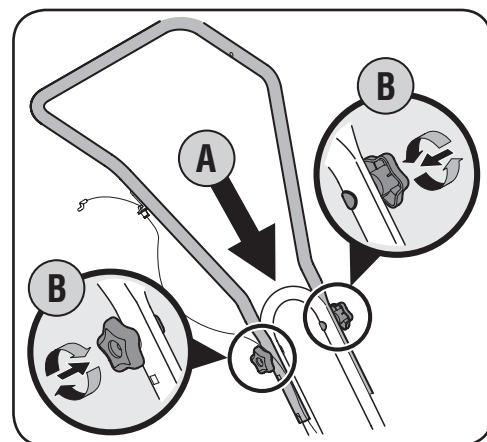

Figure 3-4
2. Position the upper handle onto the lower handle, Step A in Figure 3-4. Align the holes on the lower handle with the holes on the upper handle. Choose the upper or lower holes depending on the desired handle height.
3. Insert carriage screws through the holes and secure with the star knobs, Step B in Figure 3-4. Make certain the carriage screws are seated securely into one of the two positions provided.